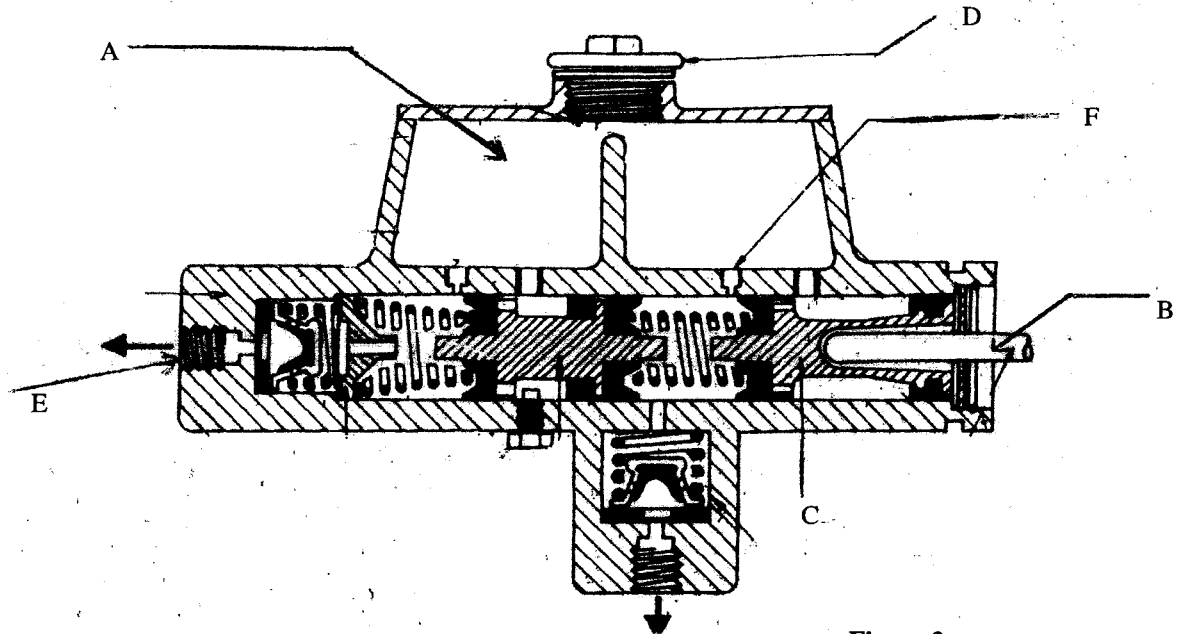

Figure 3
- 15 **Figure 3** shows a dual master cylinder.